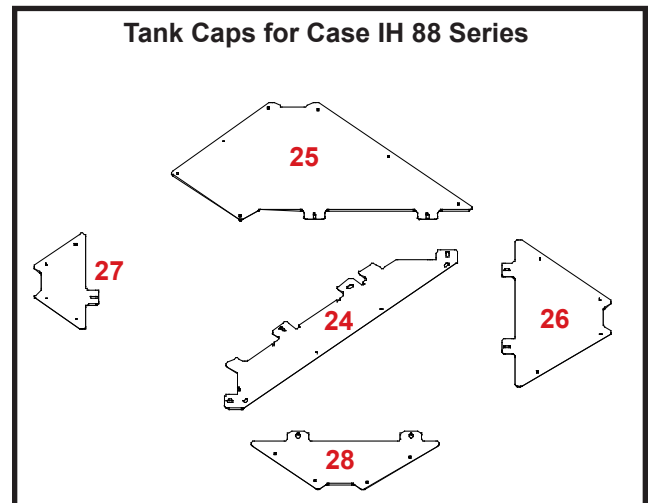

Figure 6
**NOTE:** Not all parts will be used depending on the model of combine. (Also see page 7, fig. 6 & 7)